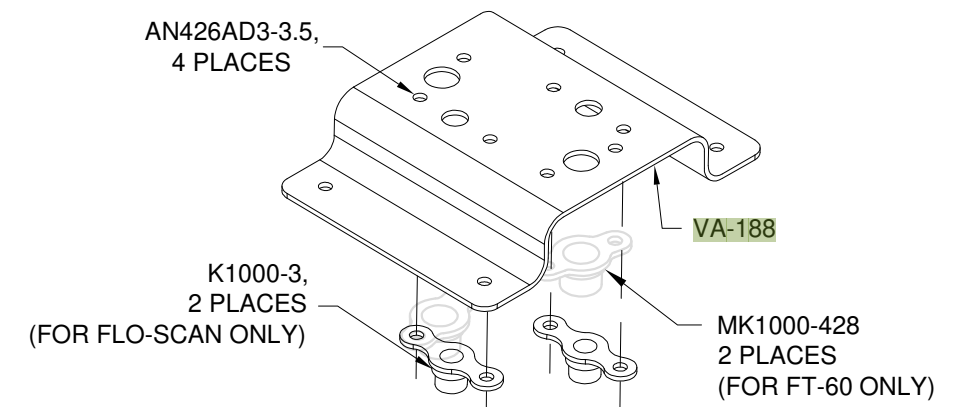

FIGURE 3: FLO-SCAN MOUNT BRACKET NUTPLATE INSTALLATION
Step 10: Remove the **F-01072-1** Fwd Bottom Skin from the **F-1048** Fwd Fuselage Ribs. See Page 28-6, Figure 3.
Final-Drill #40 the nutplate attach holes in the flo-scan mount bracket. Final-Drill #12 and 1/4 the nutplate screw holes in the flo-scan mount bracket. See Figure 3.
Dimple the rivet holes in the flo-scan mount bracket. See Figure 3.
Step 1: Dimple the nutplates that will be installed to the **VA-188** Flo Scan Mount Bracket. Rivet nutplates to the flo scan mount bracket as shown on Page 28-10, Figure 3.